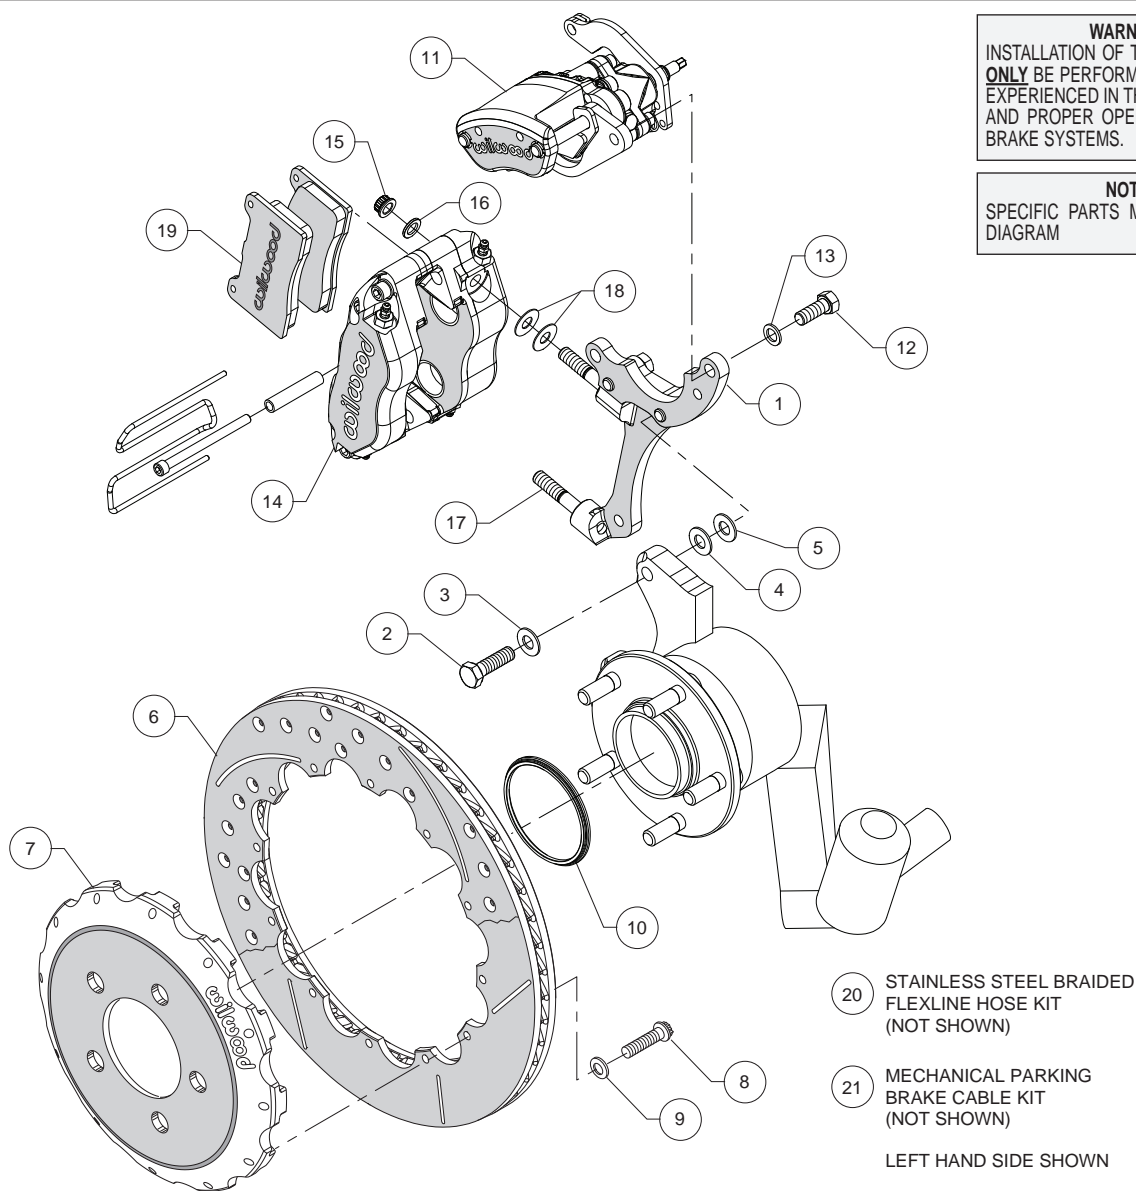
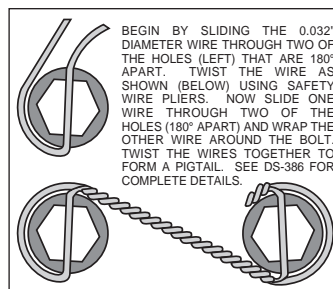

Figure 1. Typical Installation Configuration
Figure 4. Safety Wire Diagram
Assembly Instructions (numbers in parenthesis refer to the parts list and Figure 1 on the preceding pages):
•The caliper mount bracket (1) should initially be installed with clean, dry threads on the mounting bolts. Orient the bracket as shown in Figure 1, and Photo 1, and install using bolts (2) and washers (3). Initially place one .030" thick shim (4) on each bolt between the bracket and upright, Figure 1. Temporarily tighten the mounting bolts. **NOTE:** The bracket must fit squarely against the mount bosses on the upright. Inspect for interference from casting irregularities, machining ridges, burrs, etc. Later, after the caliper alignment has been checked, the mount bolts will be secured using red *Loctite*[®] 271.
•Orient the rotor (6) and the hat (7) as shown in Figure 1 and Photo 2. Attach rotor to hat using bolts (8) and washers (9). Using an alternating sequence, apply red *Loctite*[®] 271 to the threads, and torque to 155 **in-lbs**. For an added measure of security, the bolts may be safety wired using standard 0.032 inch diameter stainless steel safety wire as shown in Figure 4. Please refer to Wilwood's data sheet DS-386 for complete safety wire installation instructions.
•Slide the rotor registration adapter (10) onto the axle register on the hub assembly with the smaller O.D. facing outward, Photo 3. Slide the hat/rotor assembly (6/7) onto the axle hub. **NOTE:** The hat must fit flush against the axle hub flange or excessive rotor run out may result. Install three lug nuts (finger tight) to keep the hat/rotor assembly in place while continuing with the installation, Photo 4.
•Lubricate the caliper mounting studs (17) with lightweight oil. Initially place two .035" thick shims (18) on each stud as shown in Figure 1 and Photo 5. Mount the caliper (14) onto the bracket (1) using lock nuts (15) and washers (16), Figure 1 and Photo 6. Temporarily tighten the lock nuts and view the rotor through the top opening of the caliper. The rotor should be centered in the caliper, Photo 7. If not, adjust by adding or subtracting shims (4 and/or 5) between the bracket and the mounting bosses. Always use the same amount of shims on each of the two mounting bolts. Once the caliper alignment is correct, remove the bracket mounting bolts one at a time, apply red *Loctite*[®] 271 to the threads, and torque to 35 ft-lb.
•Insert the brake pads (19) into the caliper with the friction material facing the rotor (6), as shown in Figure 1 and Photo 8. Check that the top of the brake pad is flush with the outside diameter of the rotor, Photo 9. If not, adjust by adding or
- Mount the parking brake caliper (11) onto the top section of the caliper mounting bracket (1) using bolts (12) and washers (13), as shown in Figure 1 and Photo 6. Apply red *Loctite*® 271 to bolt threads, and torque to 30 ft-lb.
• **NOTE:** OEM rubber brake hoses generally cannot be adapted to Wilwood calipers. The caliper inlet fitting is a 1/8-27 NPT. Install Wilwood's stainless steel braided flexline hose kit (20), P/N 220-15043 included with this kit. Connect one end to the caliper and the other to the OEM hard line at the bracket as shown in Photo 10. **Carefully route hoses to prevent contact with moving suspension, brake or wheel components.** **NOTE:** Wilwood hose kits are designed for use in many different vehicle applications and it is the installer's responsibility to properly route and ensure adequate clearance and retention for brake hose components.